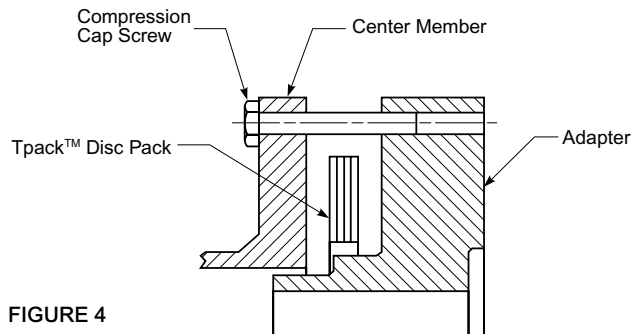

FIGURE 4
- B. On sizes 225 thru 750, use the compression cap screws provided by inserting them from the center member side and threading them into the adapter as shown in Figure 4. The compression cap screws are not the same screws as used to mount the hubs to the center member assembly. Table 2 shows the compression cap screw sizes. Compress both disc packs by tightening each cap screw by the same amount. **Be careful to compress both ends equally and only enough to allow the center member to fit between the hubs.**